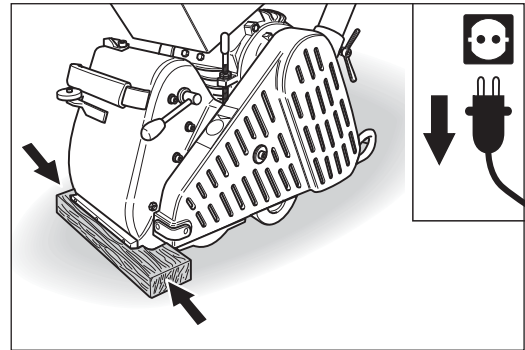

Fig. 44 Transport or storage of the machine on a flat piece of wood.
- During transport or storage, place a flat piece of wood between the floor surface and machine housing (fig. 44)! This prevents the housing from slipping and stops the drum being in direct contact with the floor!